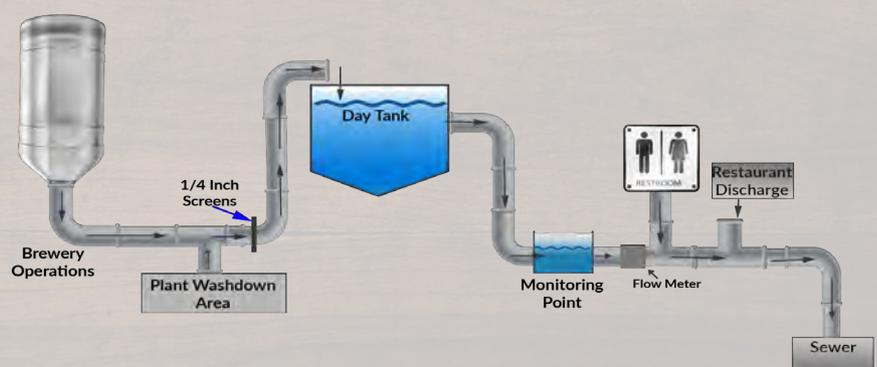

Figure 1: Monitoring Point
If a flowmeter is not available for calculating the wastewater flow from brewing operations, then the volume of wastewater will be quantified based on the water consumption meter. This requires a water meter dedicated to the brewing operations of the facility (separate from restrooms and restaurant uses). The strength of the wastewater is determined based upon sampling and laboratory analysis provided by the City. The City will periodically sample at the designated monitoring point that is separate from sanitary and restaurant drains - see Figure 1.
- 🔧 **Monitoring Point:** A monitoring point must be easily accessible by City Staff in order to collect samples that represent discharge from the brewing operation in a location that is separate from sanitary and restaurant drains. See Figure 1.
- Provide an easily accessible sample site that is representative of the discharge from the brewing operation, separate from sanitary and restaurant drains – see Figure 1.